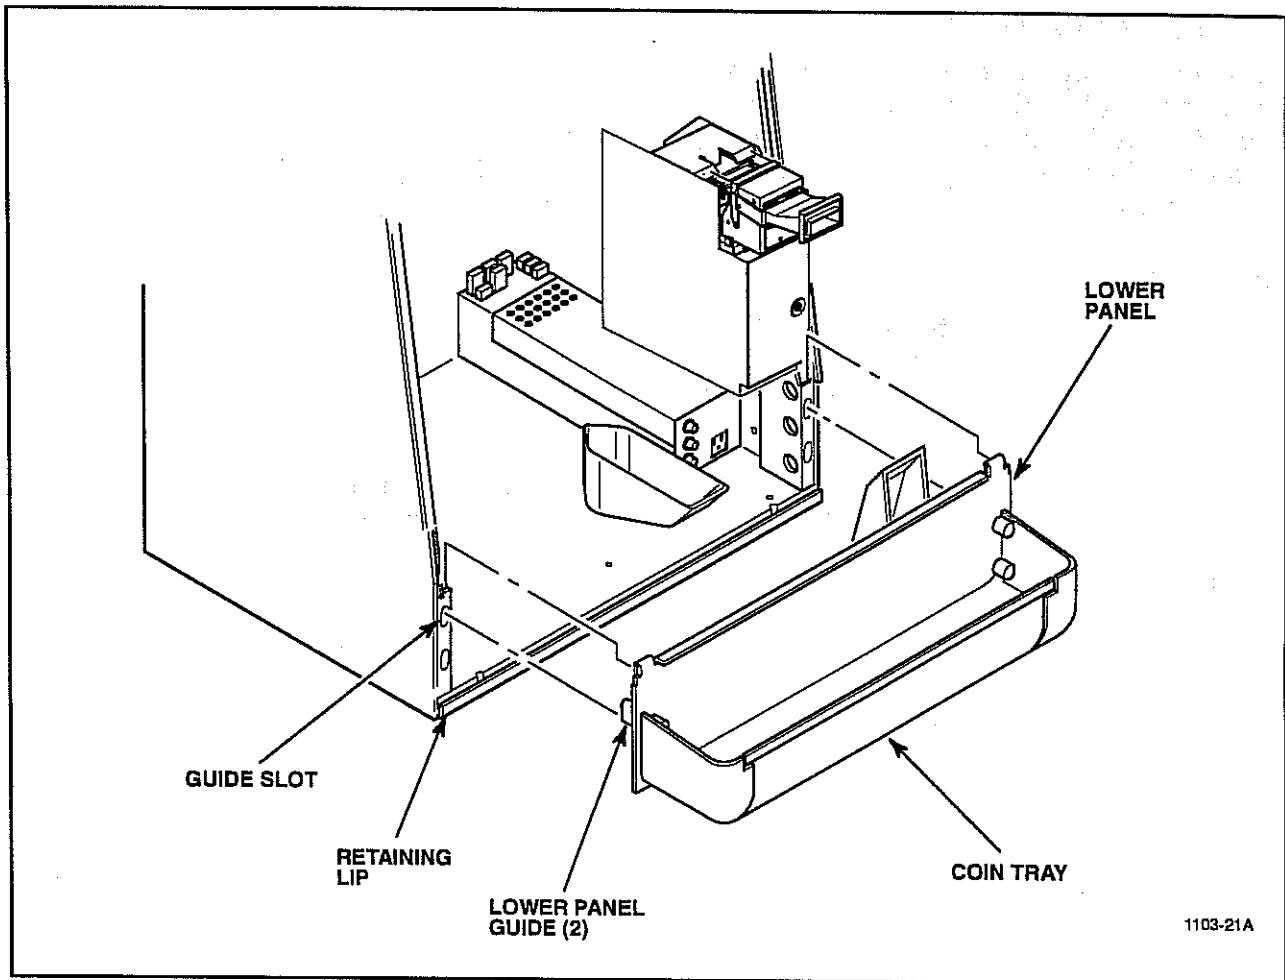

Figure 5-16. Coin Tray Removal.
2. Lift the coin tray up and away from the machine, allowing the panel guides on the back of the coin tray to clear the retaining lip at the bottom of the cabinet (see Figure 5-16).